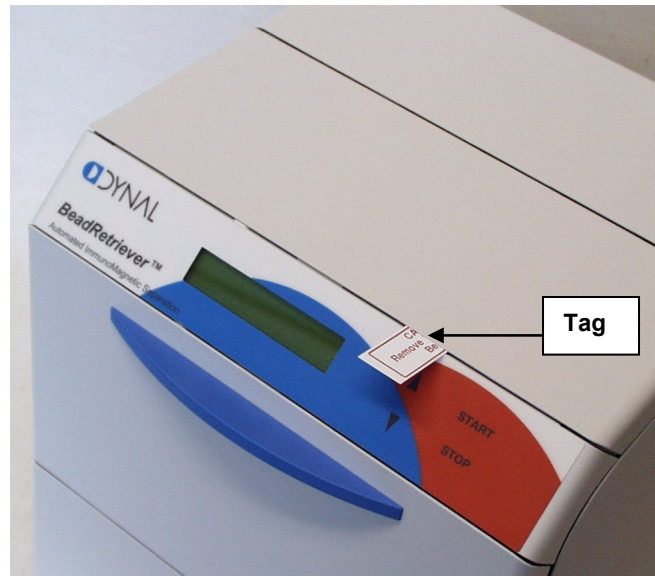
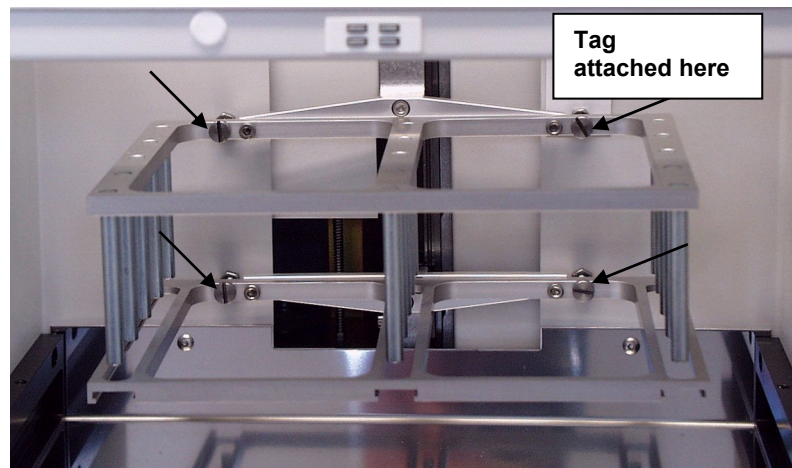

Fig. 5.1 BeadRetriever transport lock tag present before release of the locks
Fig. 5.2 Location of the transport lock screws and warning tag
Note: THERE ARE FOUR (4) TRANSPORT LOCKS (SCREWS) PRESENT (*Fig. 5.2*). A white tag with the red text '**CAUTION! Remove Transport Lock Before Use**' is fastened to the instrument to attract the user's attention) (*Fig. 5.1*). The tag in *Fig. 5.1* and the black arrows in *Fig. 5.2* indicate
1. To remove the transport locks, unscrew the four (4) screws (Fig. 5.2) with the 3 mm flat-head screwdriver supplied. Make sure that the screws are fully unscrewed in the opposite direction.
2. Then remove the transport lock warning tag (Fig. 5.1).